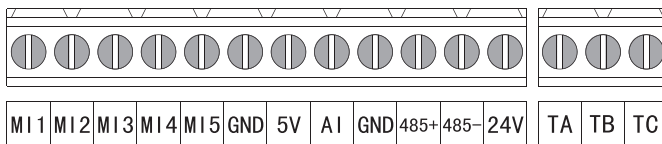

Fig.3-3 Control Circuit Terminal
1. Control circuit terminal are shown in the Fig.3-3.